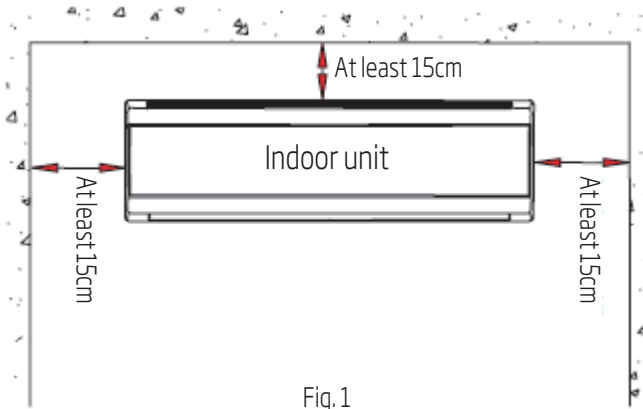

Fig.1
- Ensure the distance as required in Fig. 1.
- The back of the indoor unit should be close to the wall (Fig. 1)